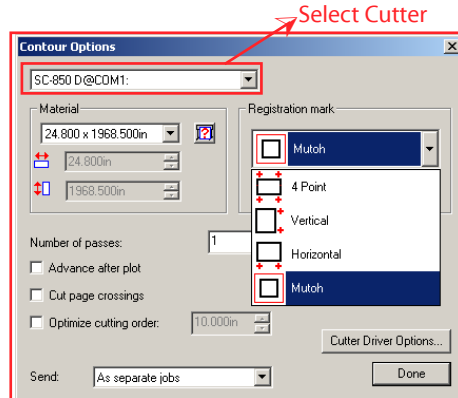

Fig.2b
5. Click the Contour Button and select Cutter: See Fig. 2b